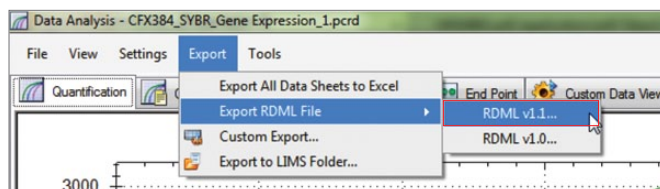

Fig. 1. Exporting an RDML file.
1. Select **Export > Export RDML File > RDML v1.1** (if using qbase^{PLUS} software version 2.3 or later; Figure 1) or **RDML v1.0** (if using earlier versions of qbase^{PLUS} software).